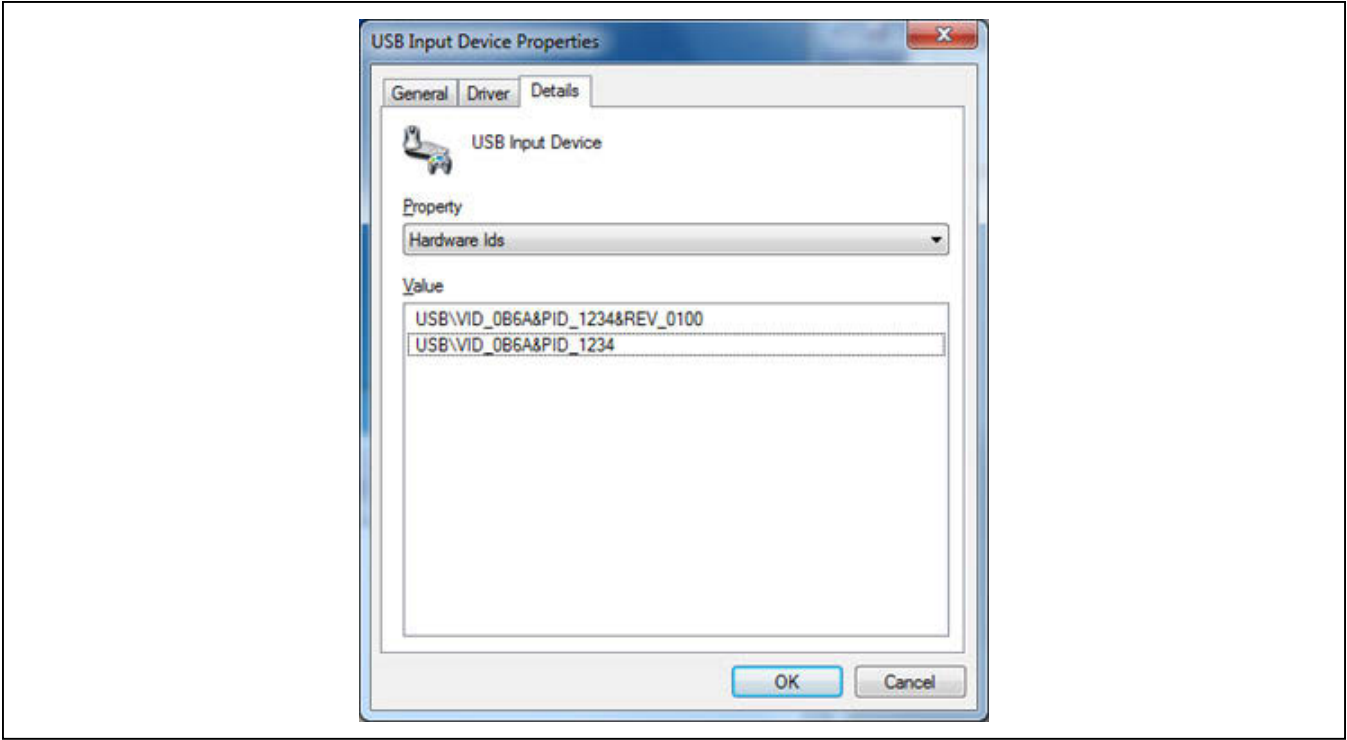

Figure 1. USB Input Device Properties
- 1) Visit www.maximintegrated.com/evkitsoftware to download the latest version of the EV kit software, 5216DACLiteRxx-LV.ZIP. Unzip the file and run the setup.exe. Follow the instructions to install the evaluation software on your PC. The program files are copied and icons are created in the Windows **Start | Programs** menu. Connect the MAX5216DACLite to the PC through a USB cable. No additional driver is needed; Windows recognizes the new device as a human interface device (HID) and automatically finds and installs the appropriate driver for it. For more information, check the device properties in: **Device Manager\Human Interface Control\USB Input Device\Properties → USB\VID_0B6A&PID_1234**. See Figure 1.